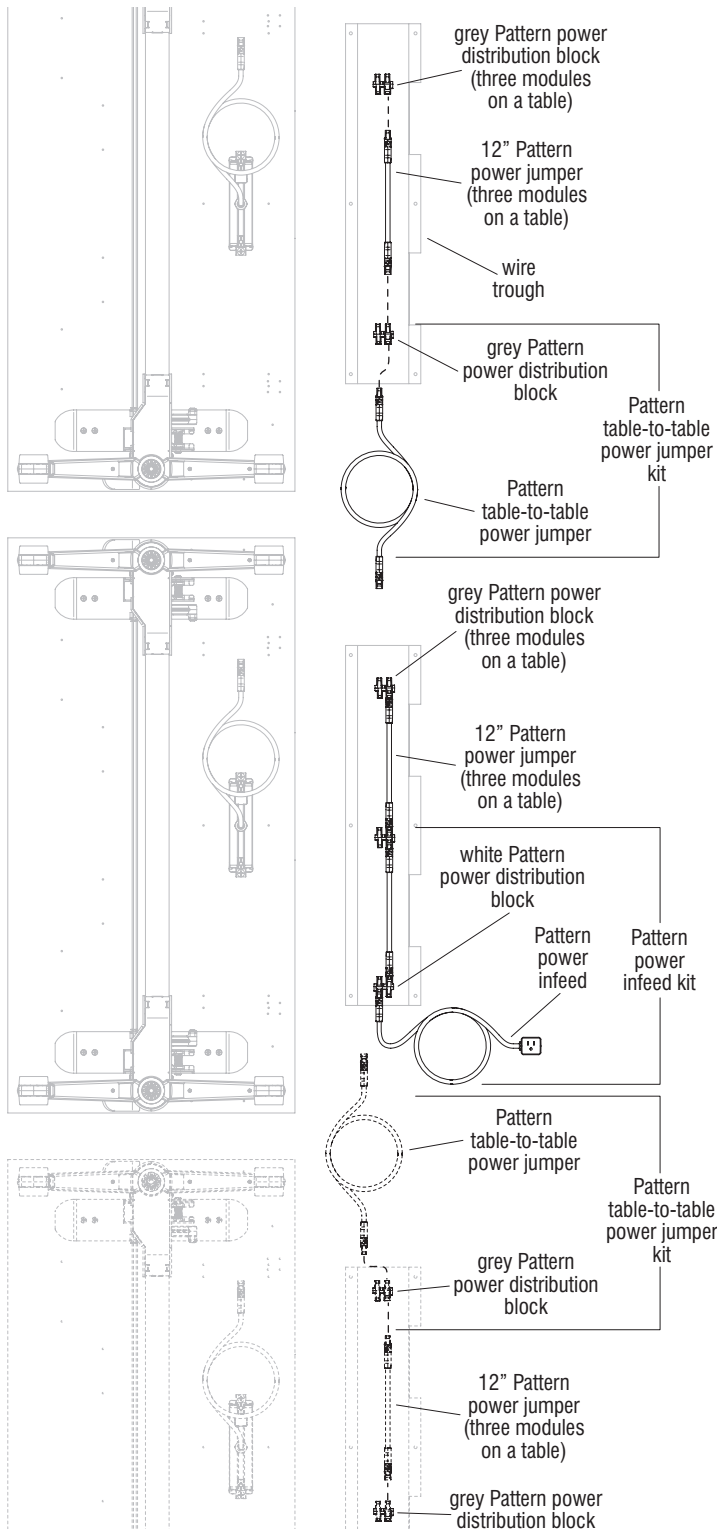

Figure 2
1. Take a Pattern table-to-table power jumper in hand and plug the jumper's male connector end into a grey Pattern power distribution block as shown in Detail B on page 12 and Figure 2 this page. Orient the table-to-table power jumper's female connector end out of the trough and toward the previous table, in the direction of the table with the Pattern table-to-table power jumper kit (Figure 2 & page 12, Detail B).
2. Step 1 above assembles the Pattern table-to-table power jumper kit (Figure 2). If the table being assembled will have three power modules, an additional 12" power jumper and grey power distribution block must be added after the Pattern table-to-table kit (Figure 2 & page 12, Detail B).
4. If the Pattern power infeed is located in-between two tables, connect the closest Pattern table-to-table power jumper, not connected to the run of tables, to the open available socket on the white Pattern power distribution block (Figure 2 & page 12, Detail B).